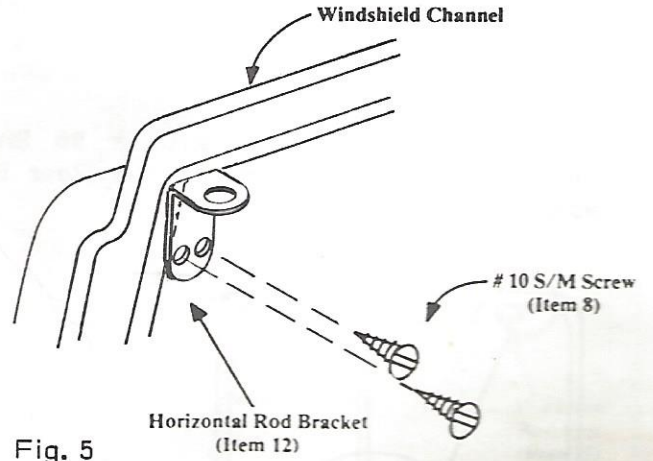

Fig. 5
1. Make provisions for the Horizontal Rod Bracket to mount to the windshield. Locate Horizontal Rod Bracket in the upper corners of the windshield frame, flush with the top of the windshield frame, as shown in Figure 5.